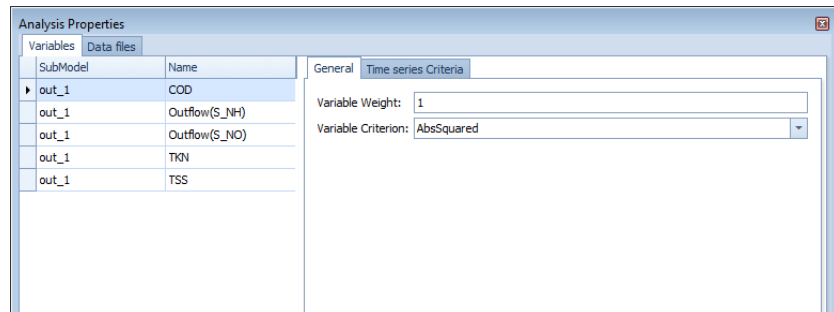

Figure 4.2 The General tab page of the Analysis Properties dialogue (Dynamic Simulation experiment)
- **Left pane (Figure 4.2):**
- **General (Figure 4.2):**